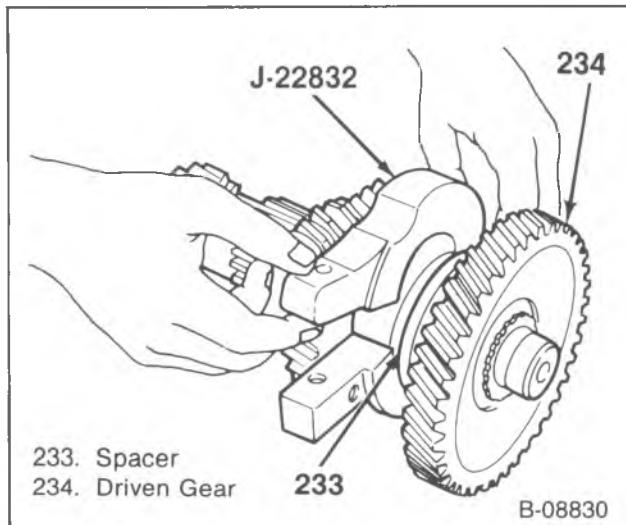

Figure 43—Installing Tool J-22832
1. Snap ring and the thrust washer (235).
2. Driven gear (234).
- Install J-22832-01 with the open side to the spacer (figure 43).